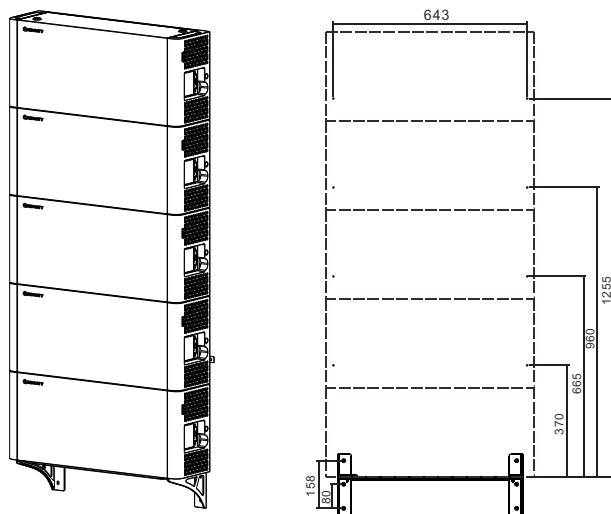

Figure 4.11: Mounting Hole Dimensions
Step 3: Fix the wall bracket on the wall. Determine the hole positions for mounting the remaining batteries according to the dimensions shown in Figure 4.11, mark the hole positions using a marker. Drill holes using the alloy drills with a diameter of 8mm (the hole depth: 45mm to 50mm). Install the M6 expansion bolts.